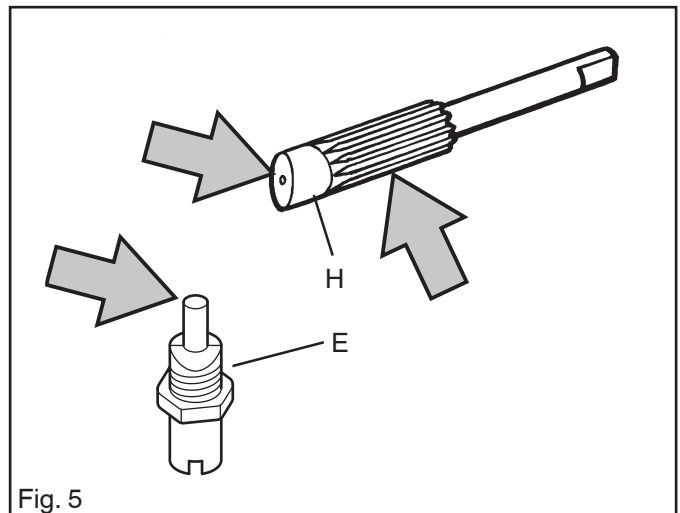

Fig. 5
1. The taper on the adjuster screw (E) should not have any wear marks. See fig. 5.
2. The eccentric face on the pump piston should not have any wear marks. See fig. 5.
3. The gear on the pump piston should be undamaged. See fig. 5.
In the idling mode (fig. 5) the throttle valve (H) is closed. Air is sucked in through an aperture in the throttle valve and a small amount of fuel is supplied through the diffuser jet (G).